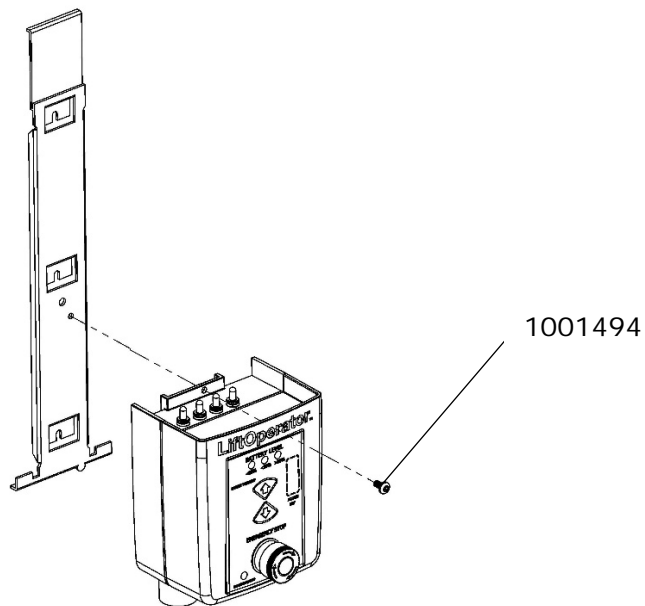

Figure 16
22. Install the LiftOperator Control to the mounting bracket by inserting the tabs on the bottom of the mounting bracket into the slots in the lower backside of the controller. Secure the controller to the bracket by installing the #10-32 X 3/8 screw and tightening with the wrench provided. See Figure 16.